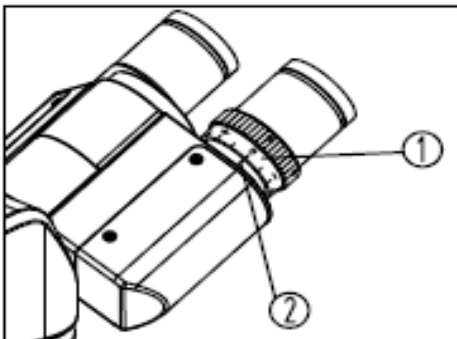

Fig. 12
Observe the right eyepiece with the right eye, focus it with the fine focus until the image is clear. Then observe the left eyepiece with the left eye, if the image is not in focus, rotate the diopter adjustment ring (1) until the image is clear (See Fig.12).
* There are ± 5 diopters on the diopter adjustment ring (1), the value aligned with the scale (2) is your eye's diopter.